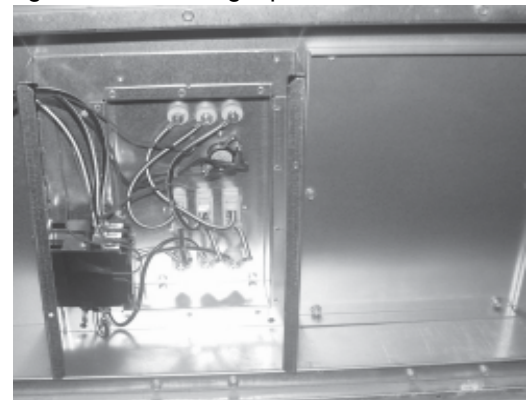

Fig. 2. Bay 1 heater installation .
5. Remove heater module access panel in Bay 1 (see fig. 2).
6. Carefully insert heater into the equipment mounting location(s). Use screws provided (see fig. 2).